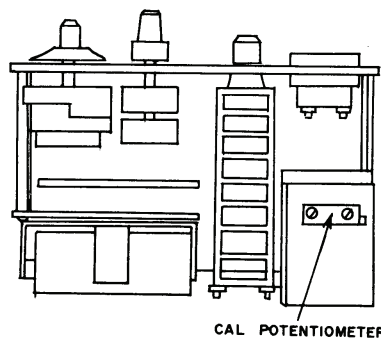

Figure 3. Model 72-311 - top chassis review.
- (1) Position controls as listed in (a) through (c) below:
- (2) Position plugs in dc current shunt for 100 mA.
- (3) Adjust output of dc power supply to obtain multimeter indication of **100.00 mV**.
- (4) Adjust **CAL** potentiometer (fig. 3) while pressing **DET** switch until TI meter indicates a null (R).